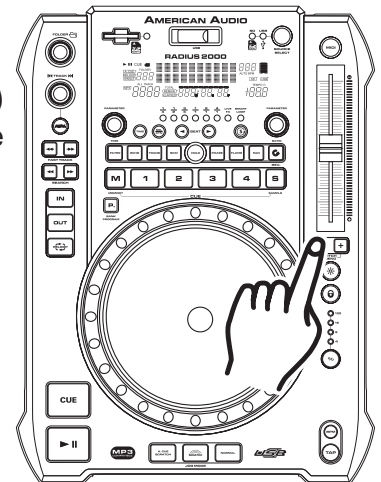

Figure 39
Adjusting the PITCH SLIDER'S RANGE (8): You may change the PITCH SLIDER'S (4) operating range at any time. To change the operating range be sure the pitch function is turned on, see figure 36. The pitch percentage range can be changed between +/-4%, +/-8%, +/-16%, and +/- 100%. 4% will allow the least amount of pitch manipulation and 100% will allow the most amount of pitch manipulation. To adjust the different ranges, press the PITCH ON/OFF BUTTON (6) and tap on the PITCH RANGE BUTTON (8) until your desired value is reached, see figure 39.